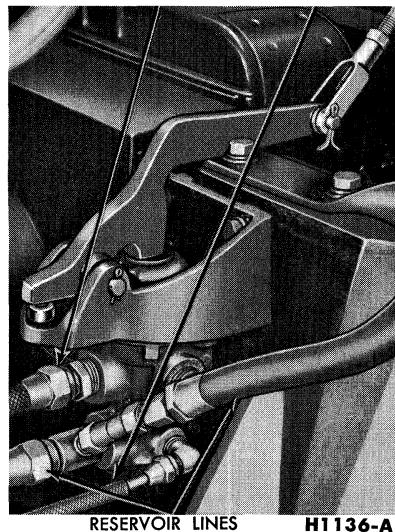

FIG. 19—H-Series Brake Valve Installation
2. Disconnect the compressor governor line and the reservoir pressure line(s) (Fig. 19).
5. Disconnect the control valve actuating arm from the valve mounting bracket by removing the cotter pin and clevis pin (Fig. 19).
3. Assemble the control valve actuating arm to the mounting bracket with clevis and cotter key (Fig. 19).